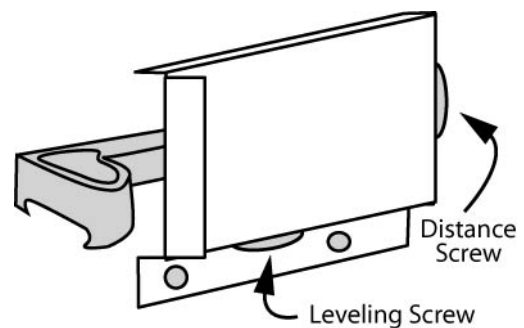

Fig. 6
12. Level both end section partitions using a 4 foot level. (NOTE: Corner walls may not be level in comparison to the end partition.) Adjust partition plumbness (level) using the set screw on the bottom of each suspension bracket. (See Fig. 6.)
15. Before securing a continuous top shelf to each partition, adjust the distance of the partitions from the back wall by tightening or loosening the Distance Screws. (See Fig. 6.) (This step ensures the partition front edges are positioned flush with the front edge of the top shelf.)